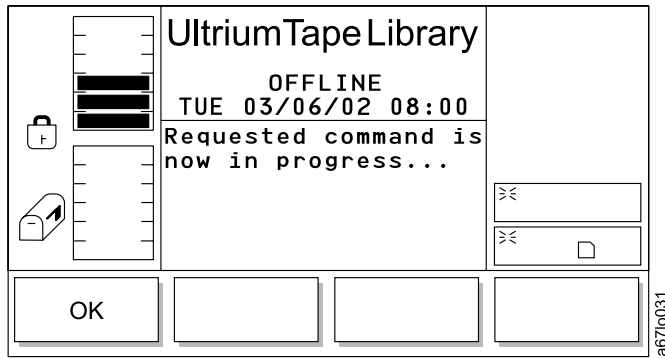
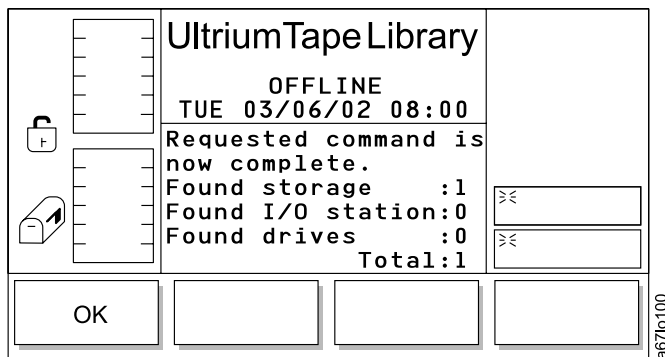

Figure 124. Progress Dialog
Figure 125. Completion Dialog
- If **OK** is selected, the fields are accepted and the Progress Dialog displays followed by the Completion Dialog (see Figure 124 on page 114 and Figure 125 on page 114).